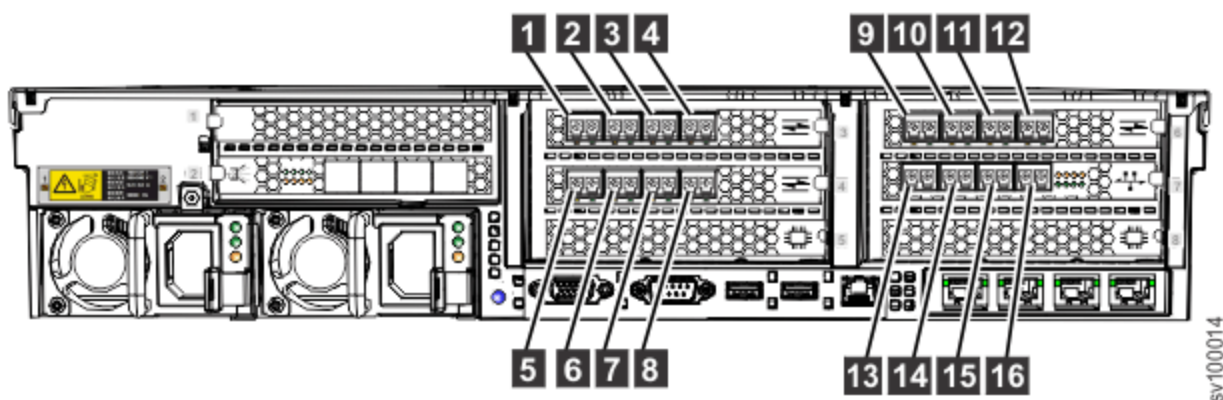

Figure 17. Fibre Channel port numbers in a typical configuration
Figure 17 on page 14 shows the physical Fibre Channel (FC) port numbers when the 10 Gbps Optical Ethernet adapter is configured for Fibre Channel over Ethernet (FCoE) communications.